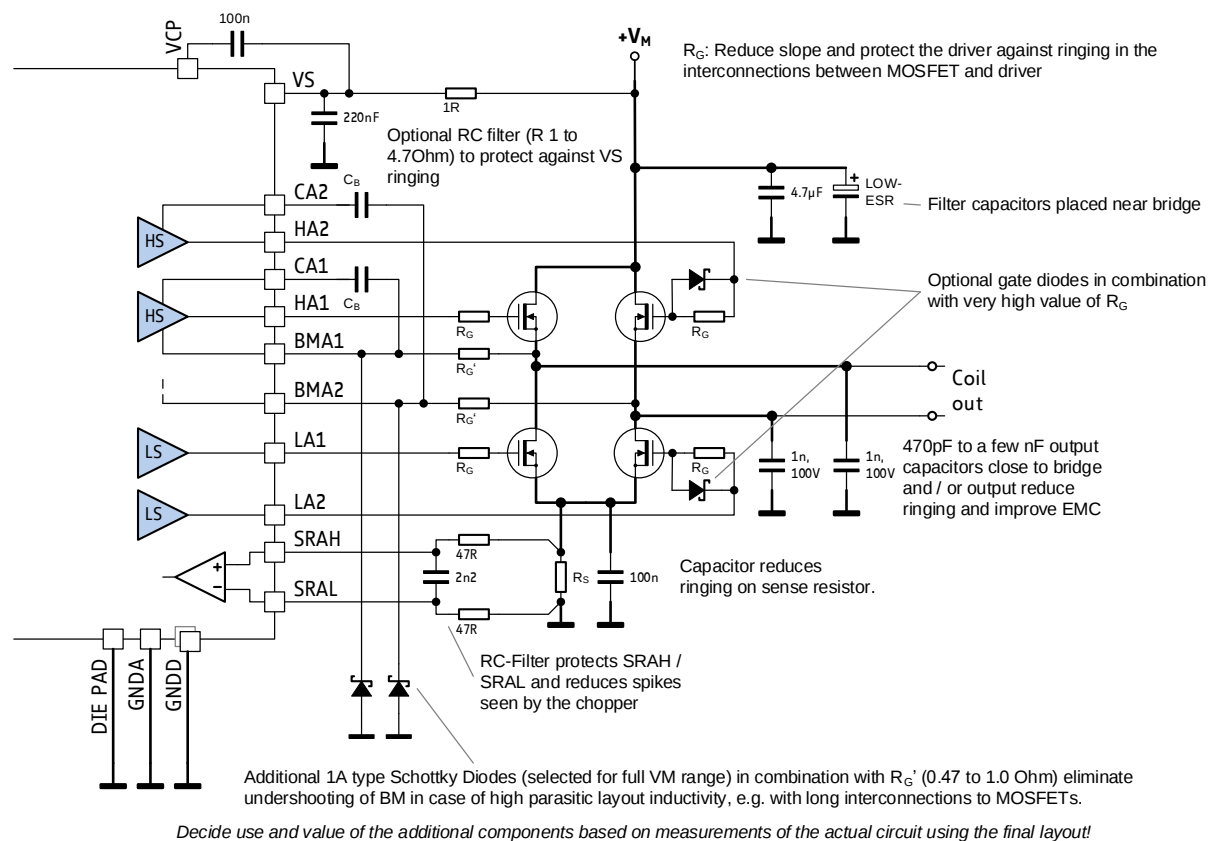
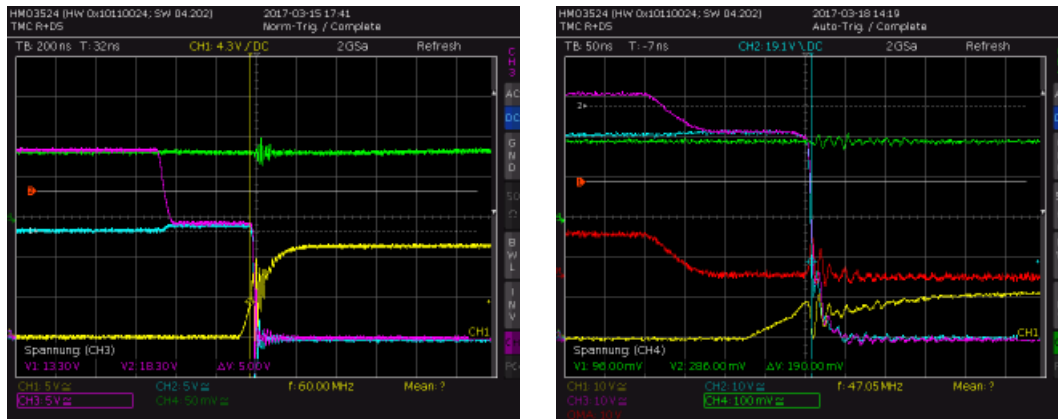

Figure 3.5 Bridge protection options for power routing inductivity
Figure 3.6 Ringing of output (blue) and Gate voltages (Yellow, Purple) with untuned bridge
In addition to filtering capacity near to the power bridges, provide sufficient capacity on VS located close to the VS pin and the connection of the VCP capacitor, to ensure that high-frequency ripple, caused by the switching edges of the power bridge transistors are kept well below 0.5V. An RC filter may be required (see Figure 3.5).
Stray inductance in power routing will cause ringing whenever the opposite MOSFET is in diode conduction prior to switching on a low-side or high-side MOSFET. Diode conduction occurs during break-before make time while the load current is inverse to the following bridge polarity. The MOSFET bulk diode has a certain, type specific reverse recovery time and charge. This time typically is in the range of a few 10ns. During reverse recovery time, the bulk diode will cause high current flow across the bridge. This current is taken from the power supply filter capacitors (see thick lines Figure 3.5). Once the diode opens, parasitic inductance tries to keep the current flowing. A high, fast slope results and leads to ringing in parasitic inductivities in the current path (see Figure 3.6). This may lead to bridge voltage undershooting the GND level as well as short pulses on VS and all MOSFET connections. It must be ensured, that the driver IC does not see spikes on its BM pins undershooting GND more than 5V. Severe VS ripple might overload the charge-pump circuitry. Measure the voltage directly at the driver pins to driver GND. The amount of undershooting depends on energy stored in parasitic inductivities from low side drain to low side source and via the sense resistor R_S to GND.
When using relatively small MOSFETs, a soft slope control requires a high gate series resistance. This endangers safe MOSFET switch off. Add additional diodes to ensure safe MOSFET off conditions in this case (shown for right MOSFET pair in Figure 3.5).
- Add optional gate resistors close to MOSFET gate and output capacitors to ensure clean switching and reliable operation by minimizing ringing. Figure 3.5 shows the options plus some variations.